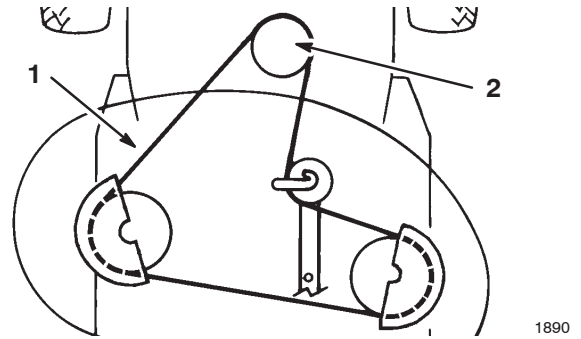

Figure 39
14. Remove the mower belt from the electric clutch pulley (Fig. 39).
15. Remove the mower belt from the lower engine pulley (Fig. 39).
3. Install the mower belt onto the lower engine pulley (Fig. 39).